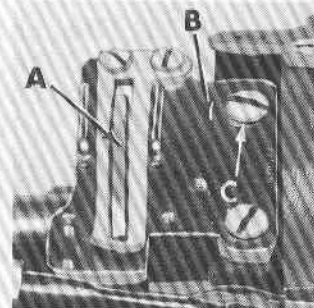

Fig. 19
The looper thread take-up (A, Fig. 19) is not spotted on the main shaft and consequently, can be set to compensate for varying conditions. It is set correctly when the looper thread is just cast off the highest lobe of the take-up when the point of the left needle is clearly visible below the underside of the looper. The cast-off plate support (B) is adjustable, and its setting determines the amount of thread pulled off by the take-up. Moving support (B) up towards the bottom of its mounting screw slots (C) causes more thread to be pulled from the cones. Moving it down towards the top of its screw slots causes less thread to be pulled. The looper threads should just become taut as the loopers reach their extreme position to the left. Before tightening the two screws which secure support (B), center the looper thread take-up in the cast-off plate support (right to left) by use of shims No. 39152 U-4 inserted between same. When take-up is centered, tighten two screws securing support (B) and remove shims.